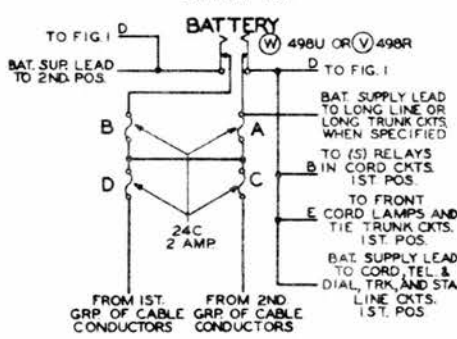

FIG. 7
1.5 The battery key shown in Fig. 7 is provided for two positions with local or building battery and battery is accessible for replacement of fuses.
(FOR FIG. 7)